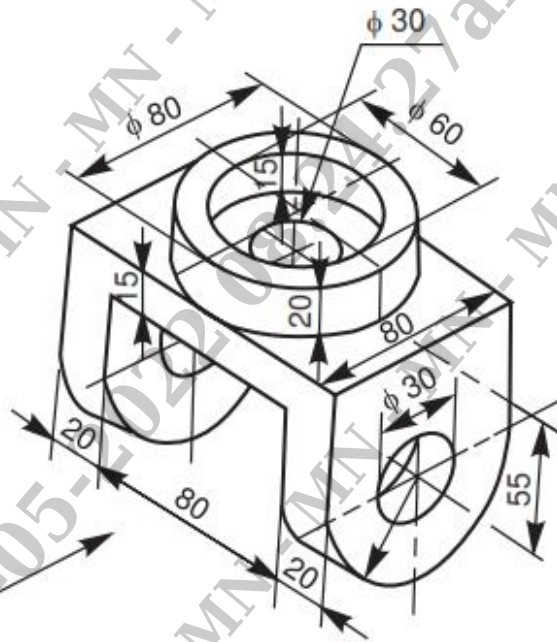

Fig. 1: Fork
1. Draw (i) the sectional view from the front, (ii) the view from above and (iii) the view from the left of a fork shown in Fig. 1
5. Figure 1 shows the details of a Plummer block. Assemble the parts of the Plummer block and show the following views.